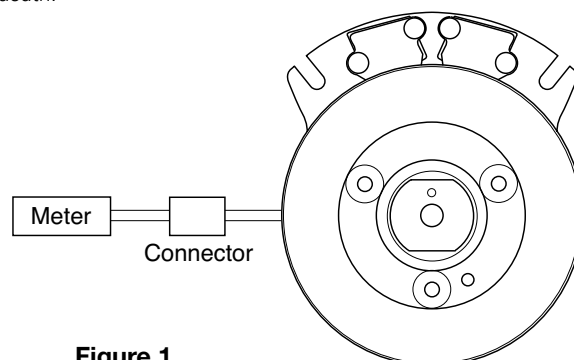

Figure 1
Step 1 How to Measure Clutch Coil resistance (Figure 1)